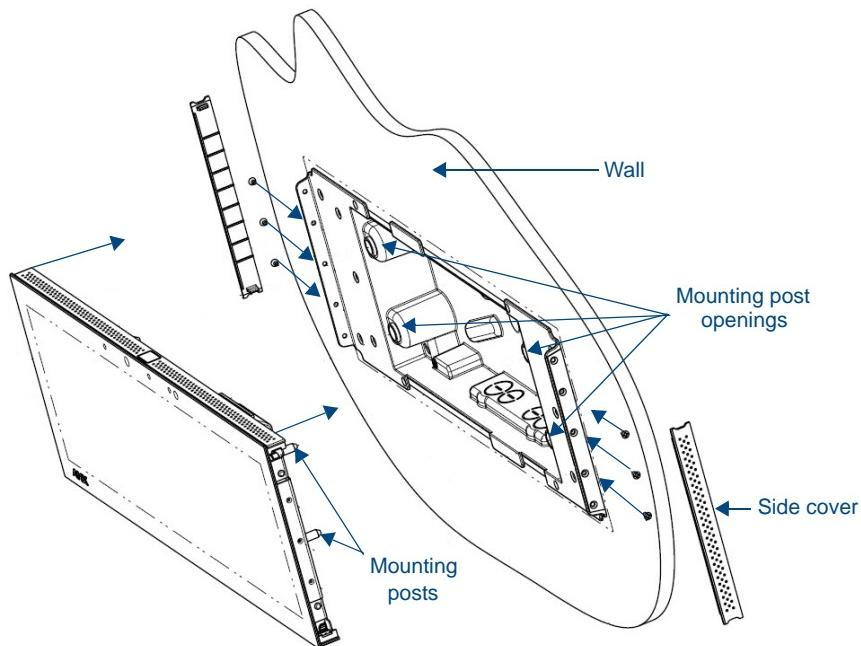
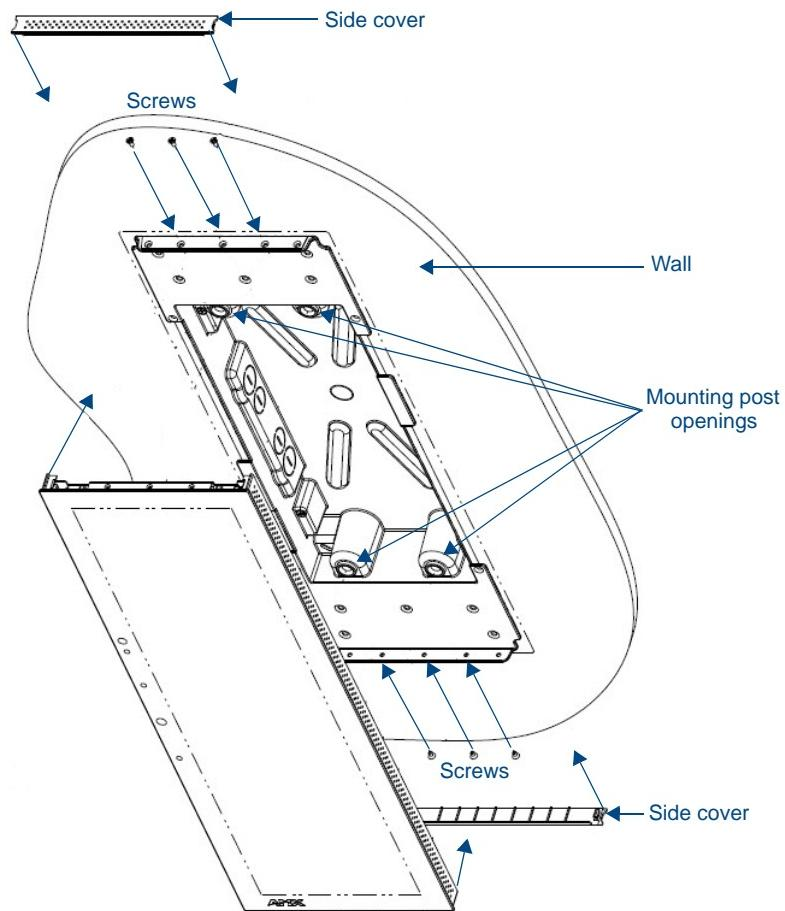
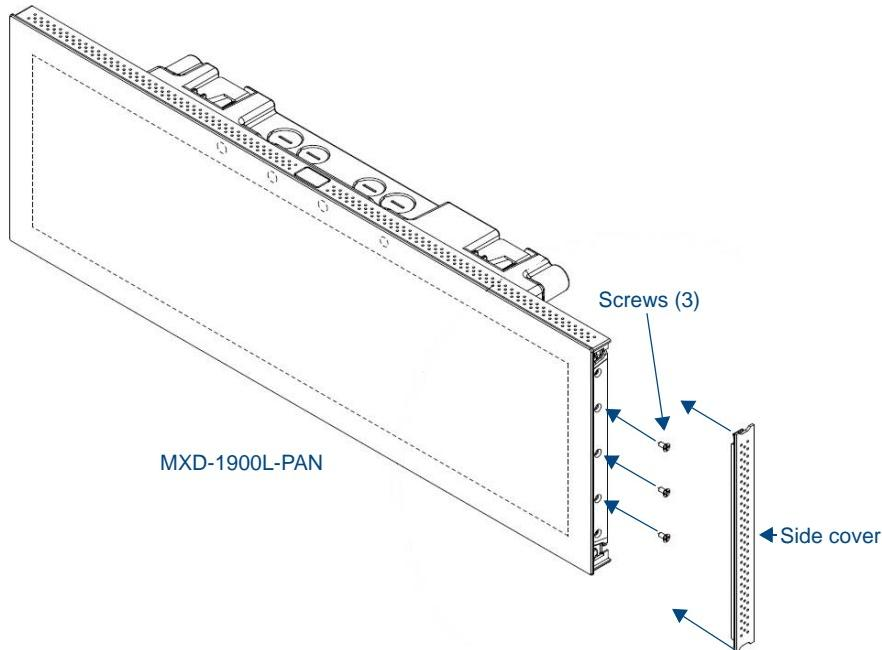

FIG. 21 MXD-1900L-PAN installation (Landscape)
FIG. 22 MXD-1900L-PAN installation (Portrait)
FIG. 23 MXD-1900L-PAN side cover installation (Landscape)
Insert the four temporary mounting posts of the panel (FIG. 21 and FIG. 22) into the openings on the back box and slide the panel onto the back box. This will temporarily hold the panel during the rest of the installation.
11. Use the six provided screws, three at each end, to secure the touch panel to the back box (FIG. 22 and FIG. 23). Use only the provided screws, as other screws may damage the touch panel.
12. Snap the decorative side covers (FIG. 23) onto each end of the touch panel.